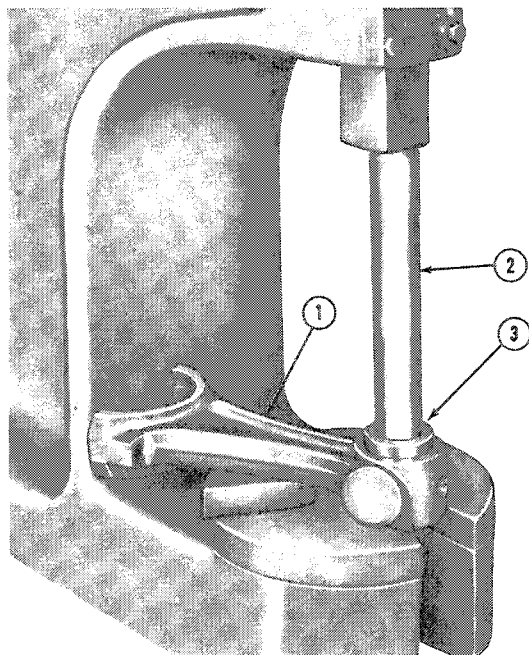

Figure 45
5. Measure the outside diameter of the piston pin and the inside diameter of the connecting rod bushing. If the clearance is not within the specified limits, see "Specifications" — Chapter 4, press out the connecting rod bushing and install a new bushing using Tool No. 9514 with a suitable Adaptor, Figure 45.